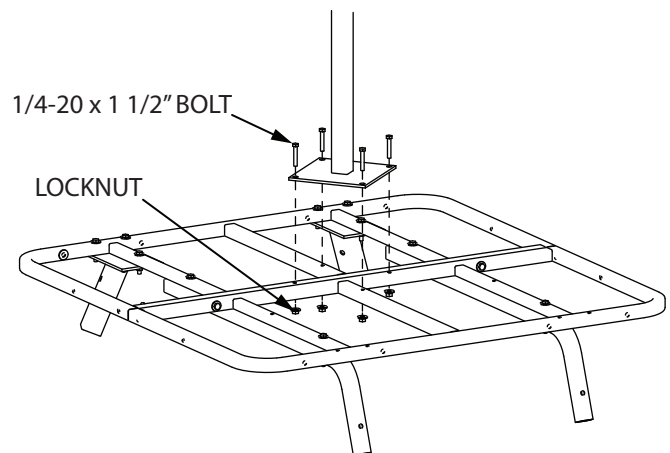

FIGURE 4
4. Attach the seat post (TP11) to the assembled platforms using (4) provided 1/4-20 x 1-1/2" bolts and locknuts. **SEE FIGURE 4**